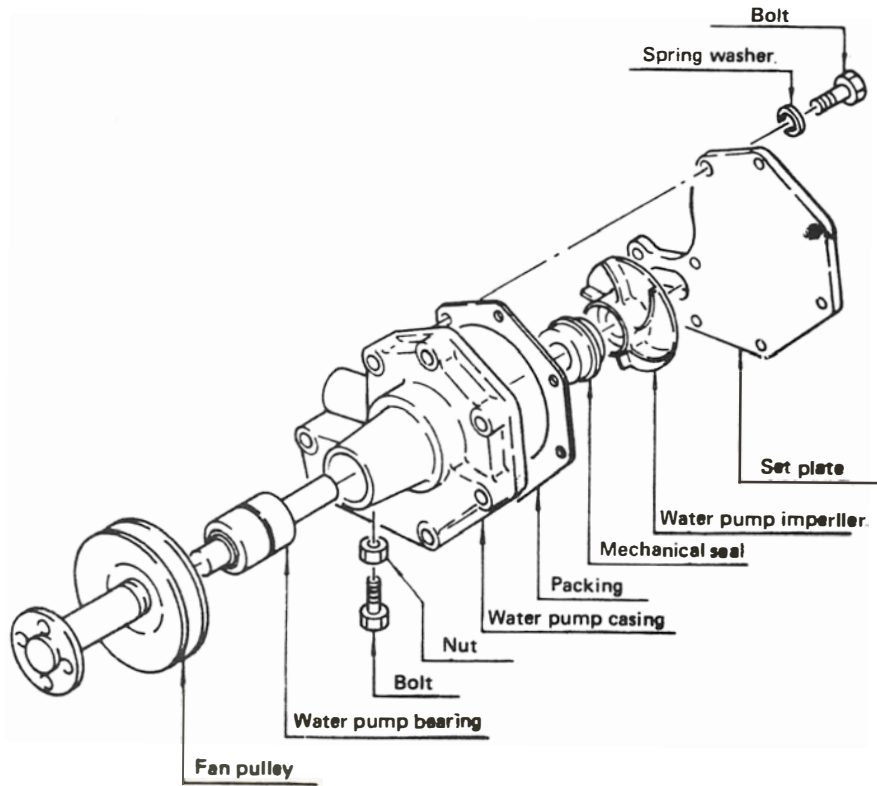

Figure 45
1. Figure 45 is an exploded view of the water pump